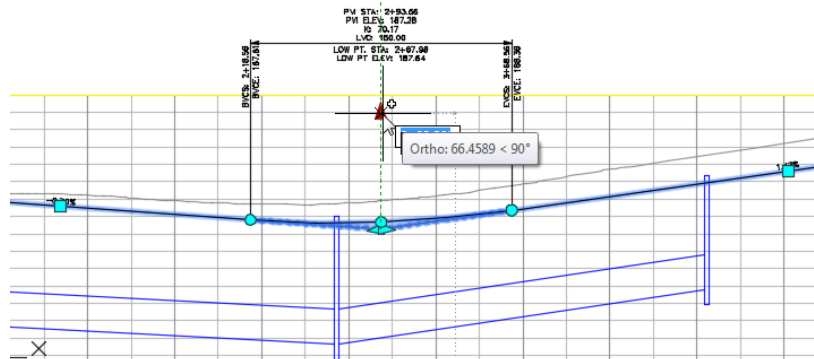

FIGURE 2.6 Grip-editing the profile
5. Click the triangular grip, and drag it upward to a location just below the top edge of the profile view grid, as shown in Figure 2.6.